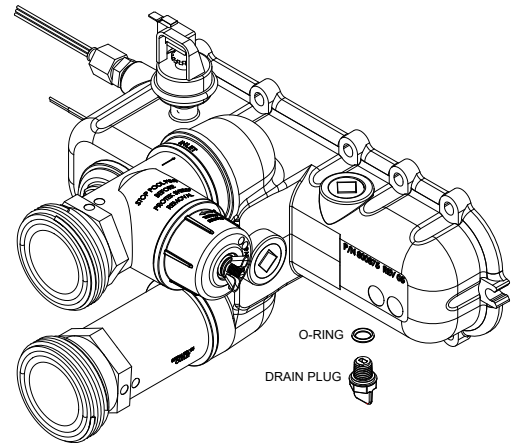

Figure 74. In/Out Header with Drain Plug
2. On the water connection, remove the lower right access panel to reveal the right side of the In/Out header. The drain will be located underneath the header. Loosen and remove the drain plug. See **Figure 74**.